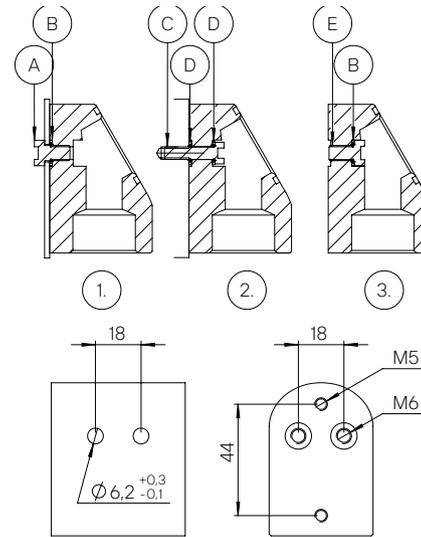

Figure 9
1. In sheet metal: Insert the M6 screws through the sheet metal from the rear (Fig. 9-A) and fit the M6 Usit ring (Fig. 9-B) over them. Use it to screw the adapter in place.
2. In solid material with M5 thread: In this case, insert the M5 × 20 screws (Fig. 9-C) with the M5 Usit ring (Fig. 9-D) fitted from the inside of the adapter and screw it to the receiving part via
3. M5 threads are available on the rear for other types of mounting, see Figure 9. For this purpose, seal the holes on the rear of the adapter from the inside using the M6 screw (Fig. 9-E) with the M6 Usit ring (Fig. 9-B) attached, as described in 1, making sure that they are airtight.